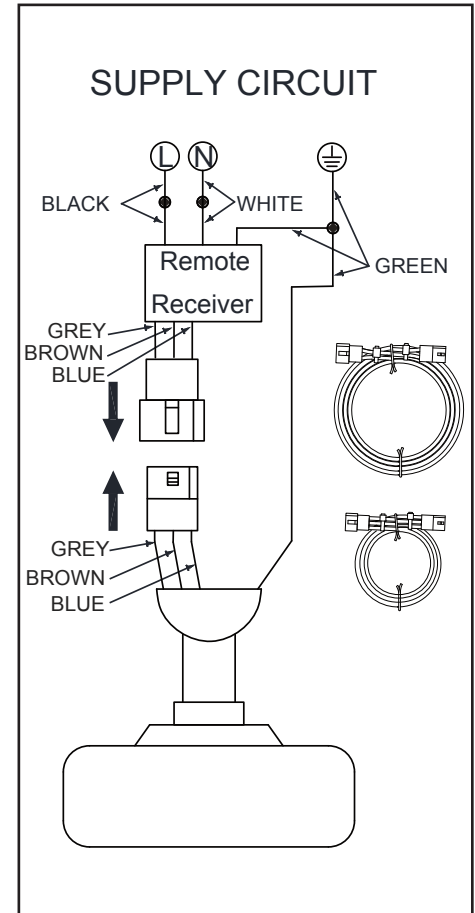

Figure 17
1. If using the 6 in. ball downrod assembly provided, wire the receiver to the fan wires by connecting the molded adaptor plug from this receiver with the molded adaptor of the fan motor assembly together. (Figure 17)